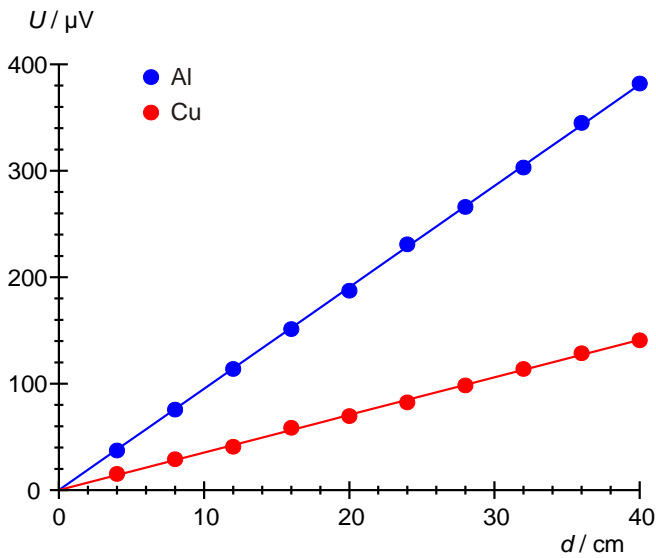

Fig. 3: Plot of  $U$  against  $d$  for copper and aluminium
- Plot the voltages  $U$  measured as a function of distance  $d$  (Tab. 1) for the copper and aluminium rods on one graph (Fig. 3) and fit a straight line through the origin to each set of points.